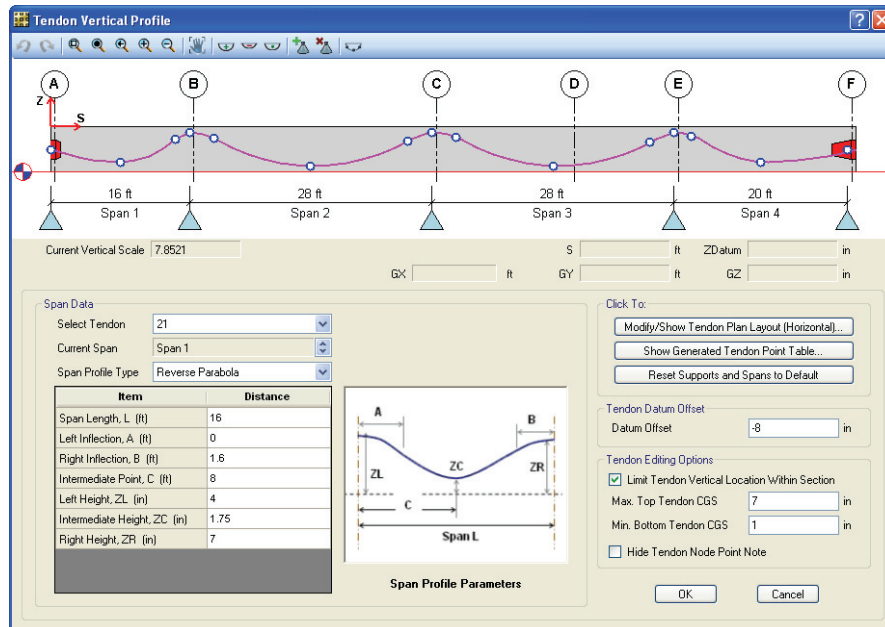

Figure 82 Tendon Vertical Profile form
3. Left click in any of the edit boxes associated with a vertical span, and the Tendon Vertical Profile form appears, similar to that shown in Figure 82. This form displays the vertical profile of the tendon in elevation, and allows the tendon profile to be altered either graphically, by grabbing a control point on the tendon and moving it to a new position, or numerically, by selecting the desired span and entering new values into the table. Click the **OK** button, to accept the default profiles.